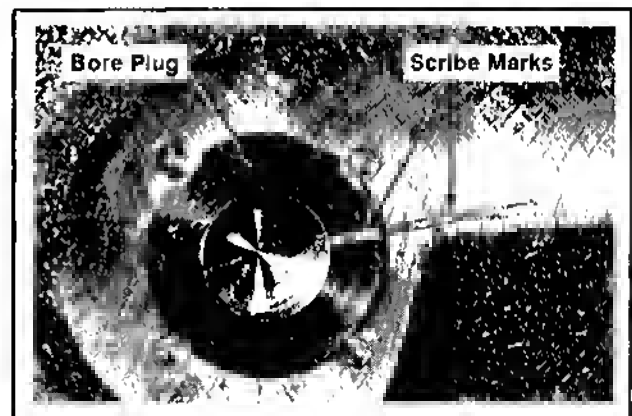

Figure 9-31. Camshaft Bore Plug.
1. Scribe a line across the camshaft bore plug and the #1 crankcase side. This line is used to align the plug on reassembly. Refer to Figure 9-31.